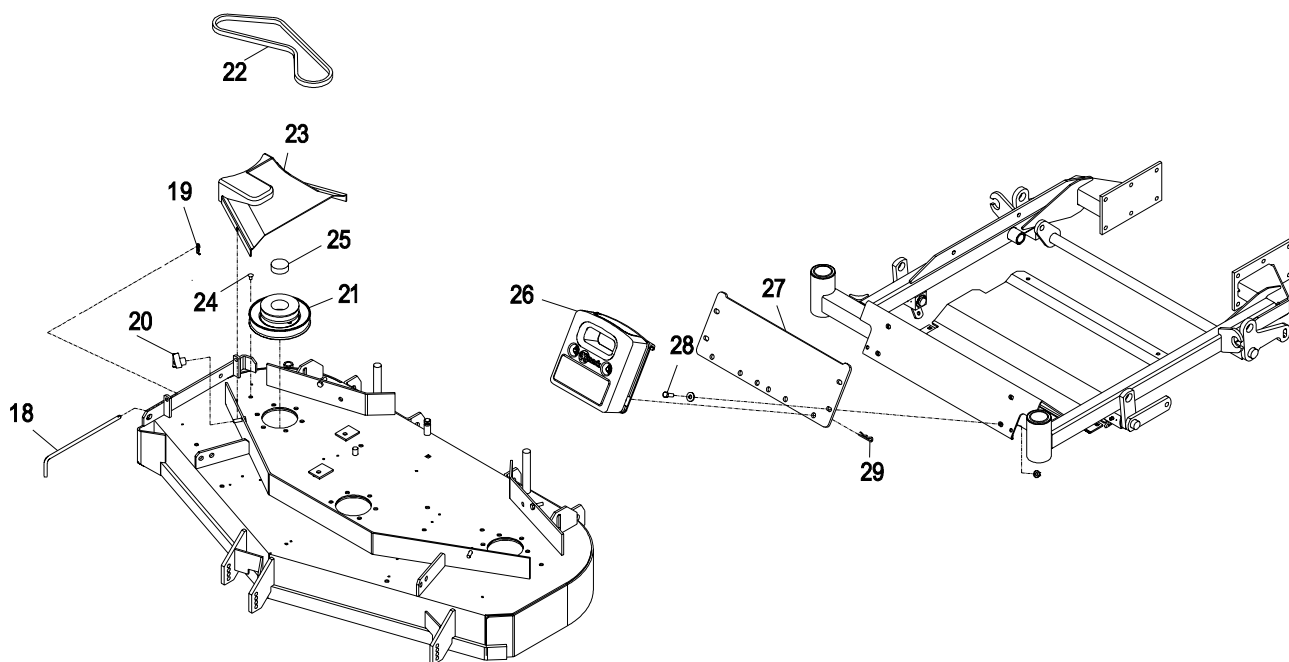

FIGURE 3
- i) Install the new belt cover (Item 23) secure with the two belt shield knobs (Item 20) as shown in Figure 3.